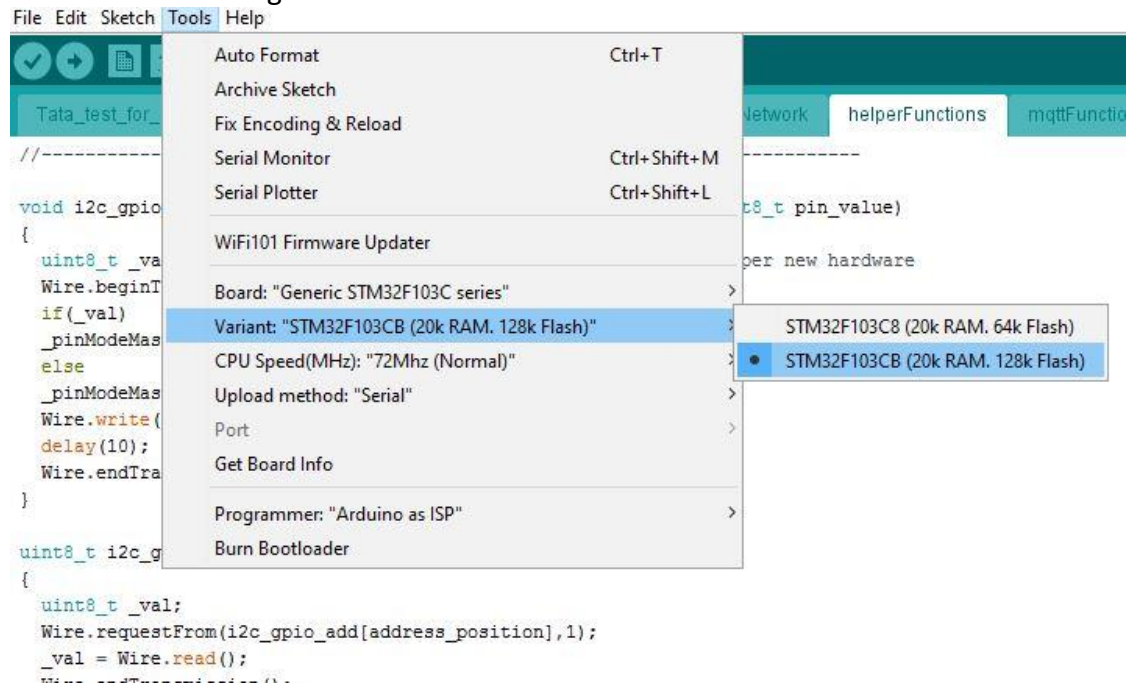

Figure 6: Variant Selection
- Click on tools tab, move mouse pointer to “Variant: “xxxxx”, under this click on “STM32F103CB” to select. Refer to figure 6.